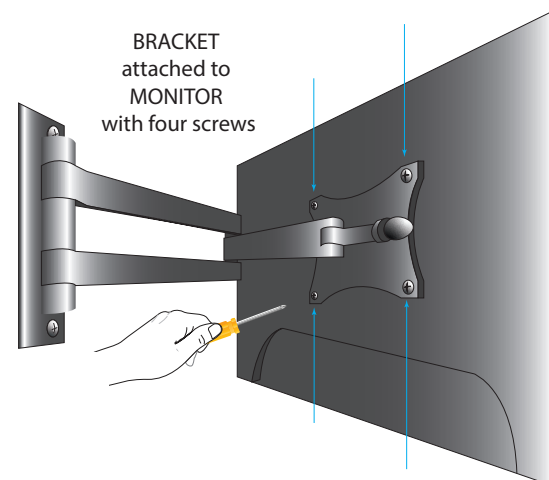

Fig. 1.4
- 5 Attach the monitor to the faceplate with the provided hardware (see Fig. 1.4).